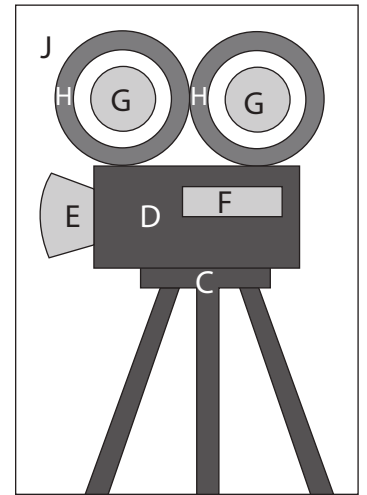

Fig. 1
3. Refer to Figure 1 to arrange and press the camera components onto the 14 $\frac{1}{2}$ " x 20 $\frac{1}{2}$ " Fabric J strip.